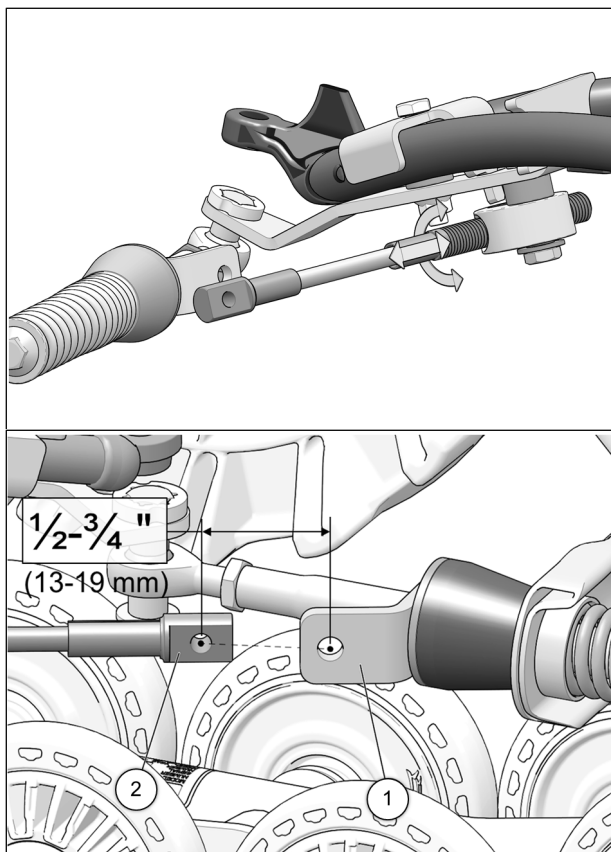

Fig. 18
13. Turn the vehicle's steering wheel to its maximum point of travel on the left. While maintaining pressure on the steering wheel, turn threaded rod to adjust length of cable so that the cable end hole (1) is located 13 to 19 mm [$\frac{1}{2}$ to $\frac{3}{4}$ in.] short of the mounting hole on the support plate (2). See Fig. 18